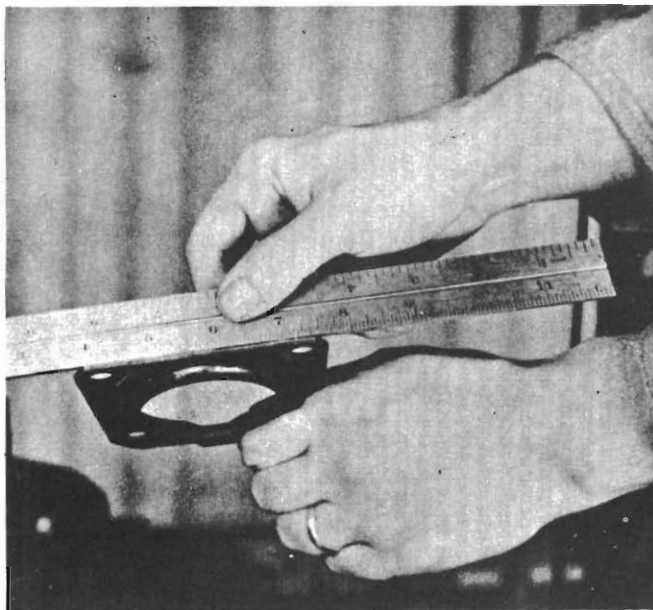

Fig. 11 - Checking retainer plate for flatness.
a. Prior to replacing the bearings and seals, first check that the bearing retainer plate is serviceable, i.e. not damaged or distorted (*refer Fig. 11*).